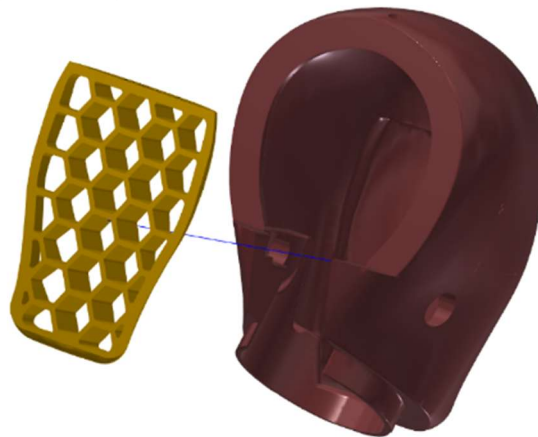

Figure 3-36. Install face insert (474-1401)
- 3.3.17 Position the Face Insert (474-1401) inside the cavity in the Head Skin (474-1008) (Figure 3-36).